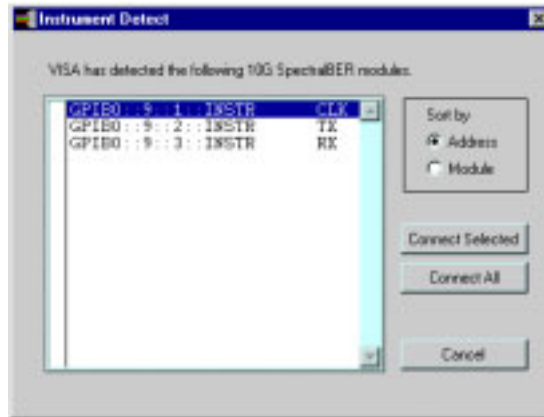

Figure 3-9. Instrument Detect Window
1. The Instrument Detect window shown in Figure 3-9 will be displayed.: